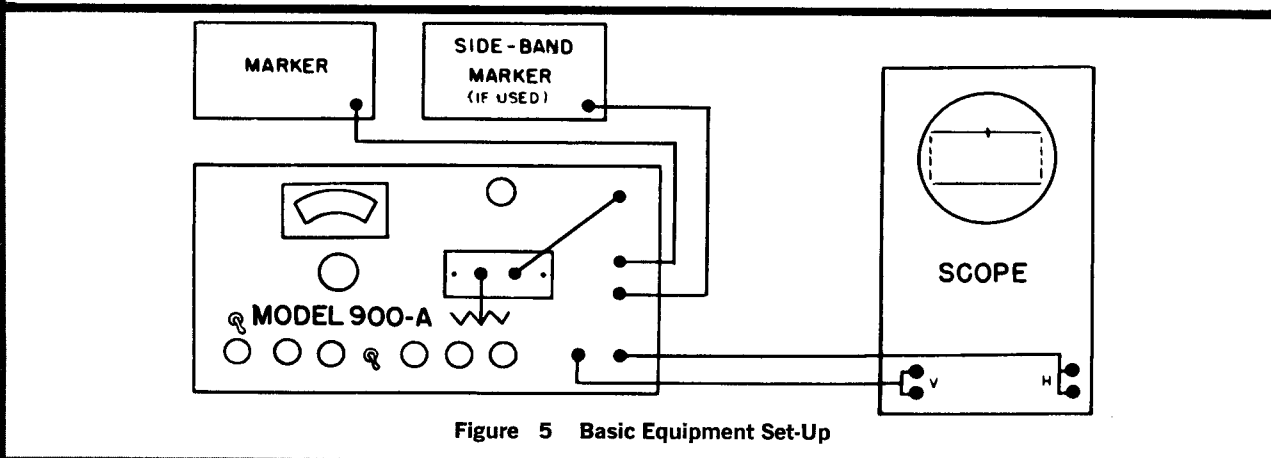

Figure 5 Basic Equipment Set-Up
1. Interconnect equipment as follows: connect the **SWEEP OUTPUT** to one connector on the D-50 Detector. Terminate the remaining output of the detector in its characteristic impedance. Connect the **VERTICAL OUTPUT** of the generator to the vertical input of the oscilloscope and the **HORIZONTAL OUTPUT** to the horizontal input of the oscilloscope. Connect a marker generator to one of the **MARKER INPUT** connectors on the sweep generator. Refer to Figure 5.